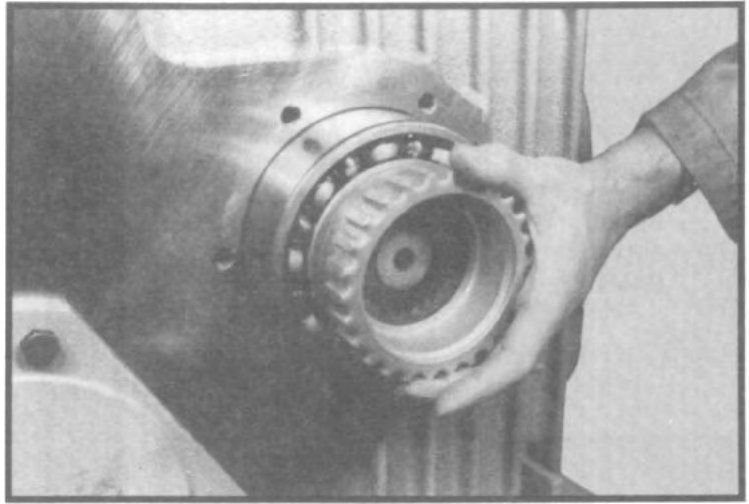
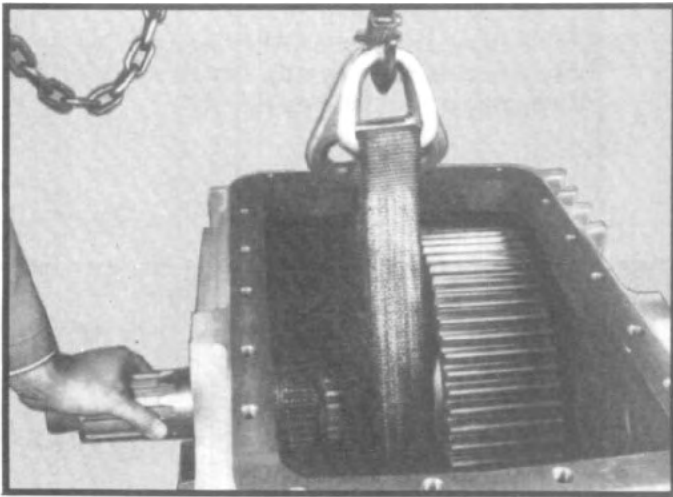
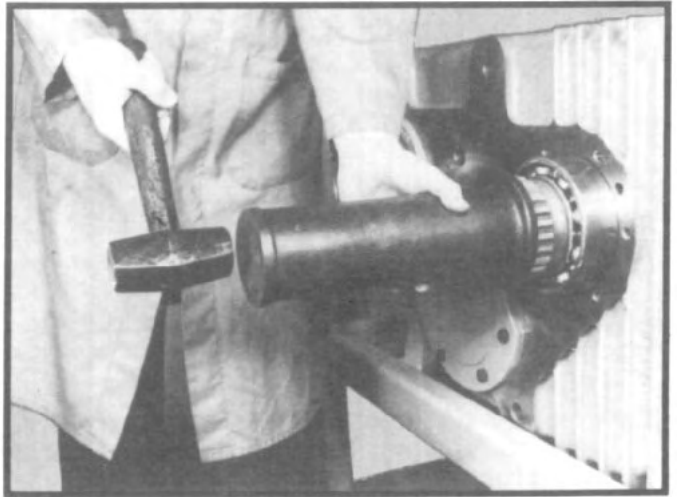

Fig. 102
Fig. 103
Fig. 104
- 1.8. Install clutch gear and bearing assembly on front of shaft. (See fig. 102) Supporting the shaft assembly with a chain hoist, (See fig. 103) tap the clutch gear with a soft hammer to push the bearing into the housing. (See fig. 104) Assemble the nut and washer on the end of the shaft, finger tight. Do not remove the chain hoist support until after Step 10.